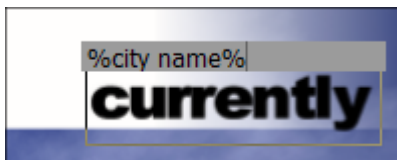

Figure 11
8. Replace “currently” with **%city name%** (Figure 11), and press the **Enter** key to confirm the change.